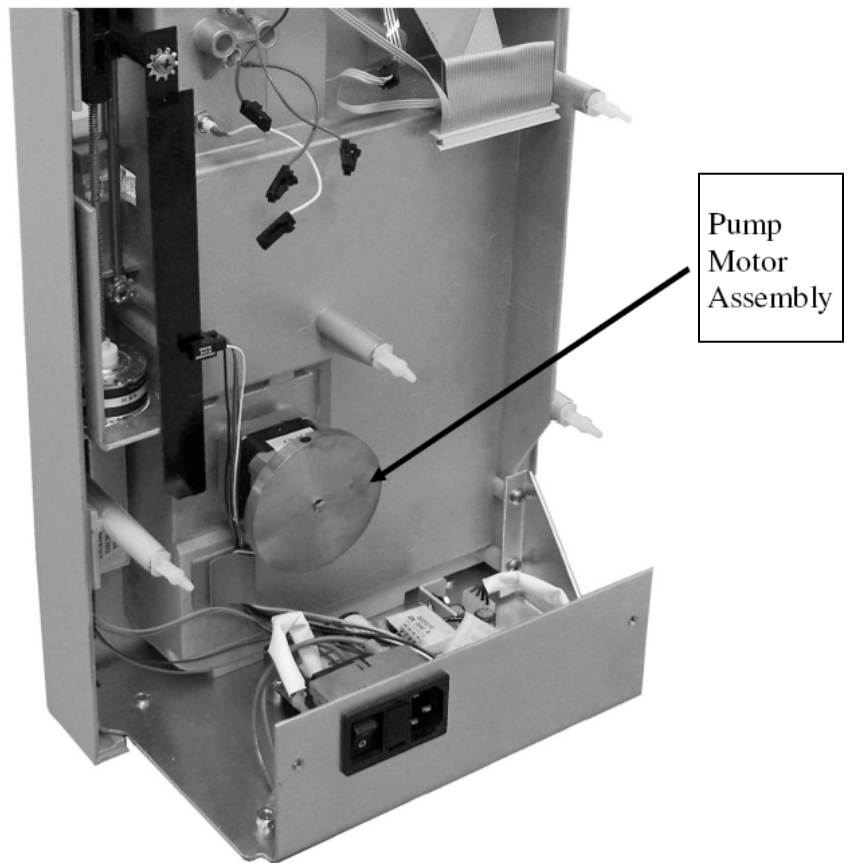

Figure P12 - Pump
5. Remove the pump motor assembly, as shown in Figure P12.
1. Install the pump motor assembly through the front housing, as shown in Figure P12. The pump motor wires are positioned below the pump when properly aligned.
2. Attach the four screws into the front of the analyzer, using a Phillips head screw driver. See Figure P12.